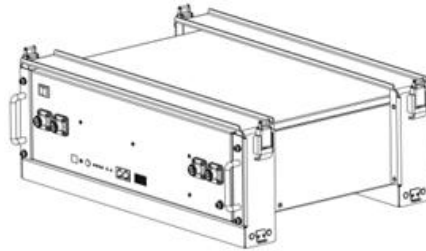

Figure 3-5
1. Place the UE-48LI3750I and brackets as shown in the figure 3-5, and insert the UE-48LI3750I into the brackets. Use 4 screws to fix the module on the front bracket.